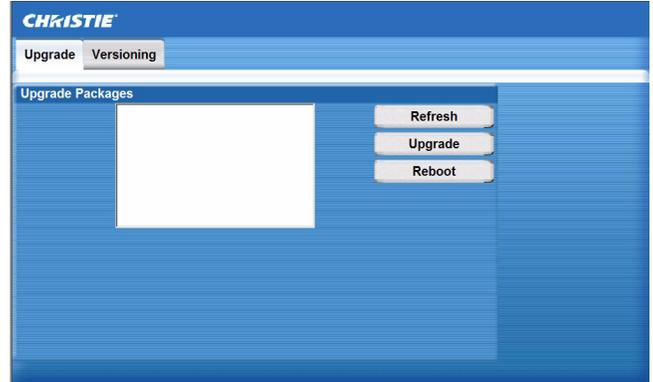

Figure 3-21 Upgrade/Versioning Window
3. Click **Reboot to Failsafe** and then click **Yes** when you see the confirmation dialog with the following text, “Are you sure you want to reboot ito Failsafe?” The **Upgrade/Versioning** window displays as shown in **Figure 3-21**.